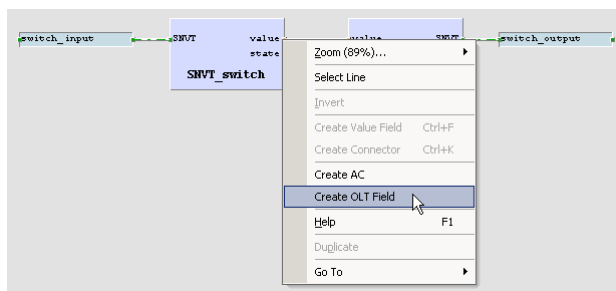

Figure 36: Create online test fields
12. For later debugging, it is good practice to add online test fields to the drawing, to display the current value of the signals during online test. To do this, right-click on the value output of the left function block and select **Create OLT Field** from the context menu, as shown in Figure 36.